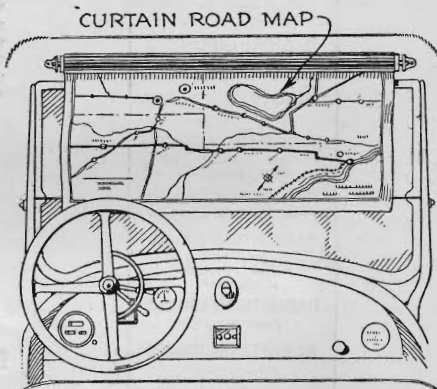

Fig. 4. Glued on a curtain above windshield.
P. D. Villwock, of Edwardsport, Ind., wins this month's \$10 prize for his suggestion of a curtain road map (Fig. 4). Each month **POPULAR SCIENCE MONTHLY** awards \$10, in addition to regular space rates, for the best idea sent in for motorists. Other contributions used are paid for at the usual rates.
ORDINARILY, when you want to consult a road map, you have to unfold a large and hard-to-handle sheet of paper. A convenient way to carry the map is to fit a roller curtain just above your windshield so that it can be pulled down, as shown in Fig. 4. Glue or otherwise fasten the map to this curtain. The